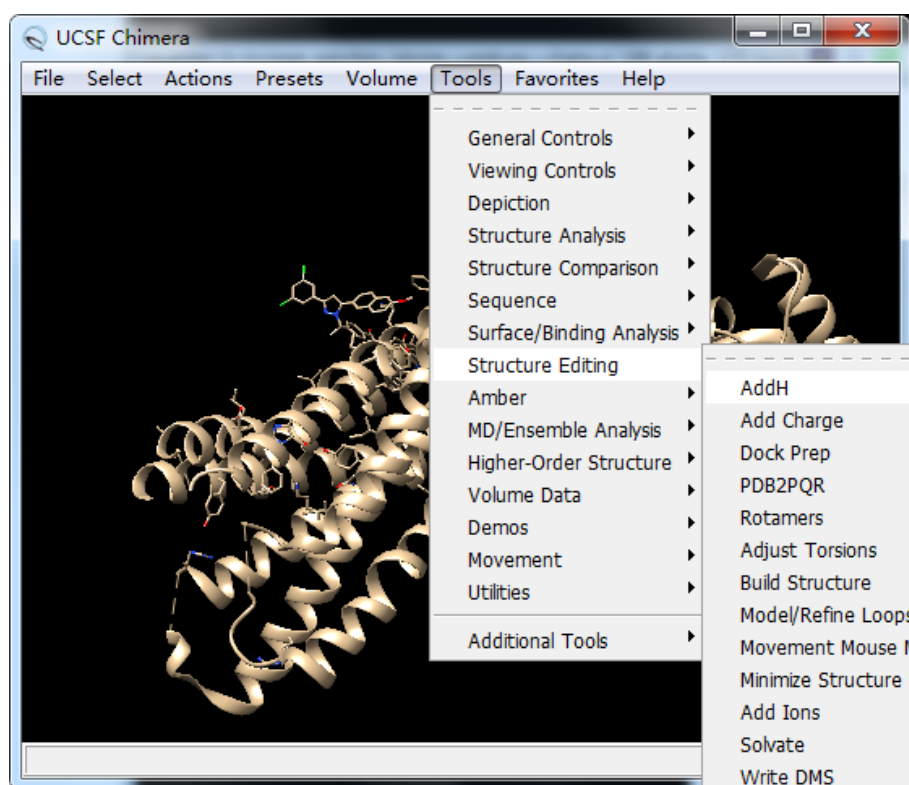

Figure 4. Adding hydrogen.
4. Add hydrogen. Tools→Structure Editing→AddH (see Figure 4).